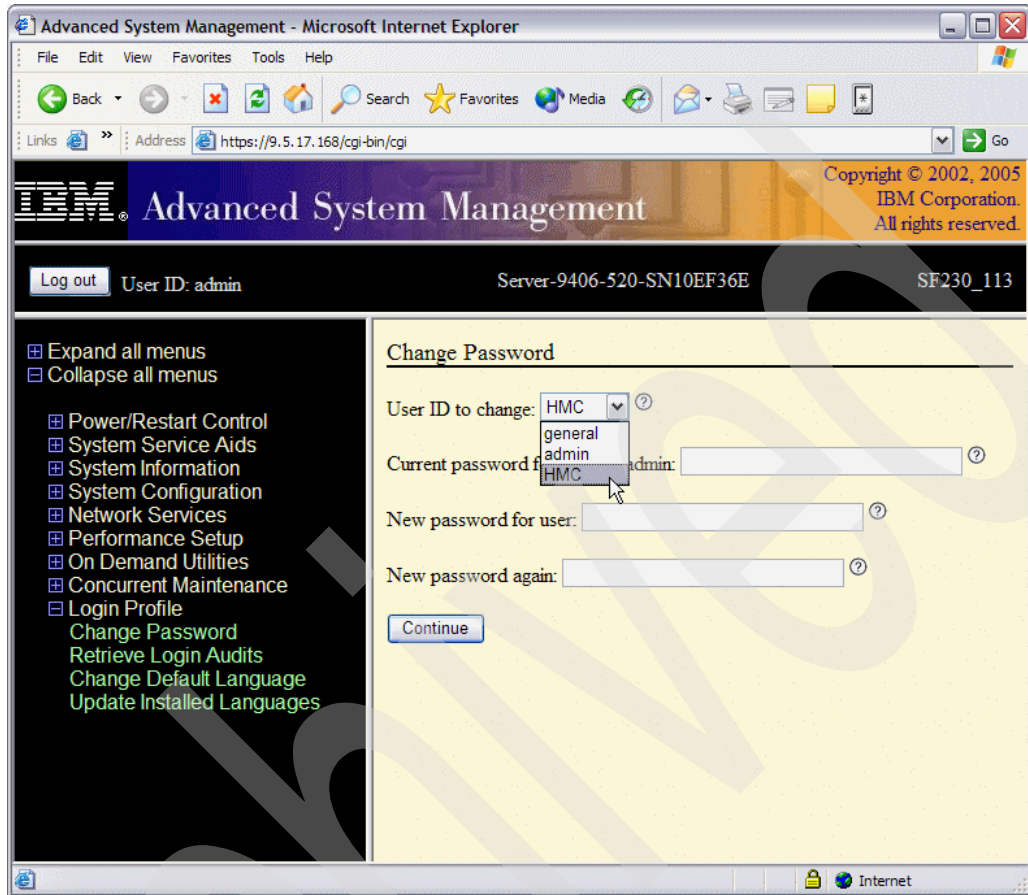

Figure 15-4 Select user ID HMC to change HMC access password
3. Select the user ID of the user whose password you wish to change. In order to change the HMC Access password, select the HMC user ID from the drop down menu (Figure 15-4).